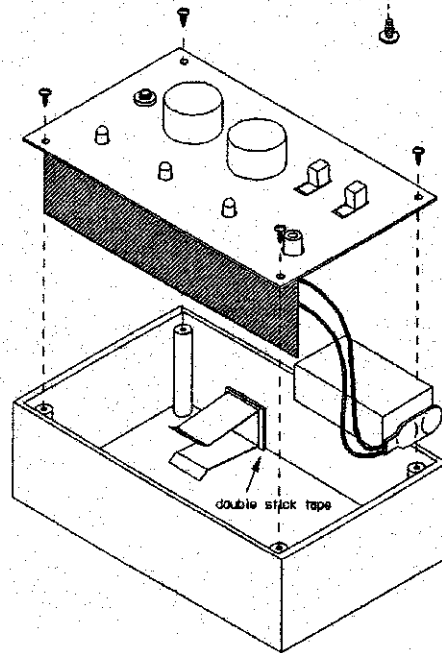

Fig 5. The battery holder attaches to the case with double-stick tape. The front panel is secured with (4) 4X3/8 self tap screws.
- ( ) Fasten the aluminum battery holder to the rear edged of the plastic case using the double-stick foam tape supplied as shown in fig 5.
- ( ) Clip the battery into the holder and complete the assembly of the device by securing the front panel to the case using the (4) 4 X 3/8" self tapping screws.